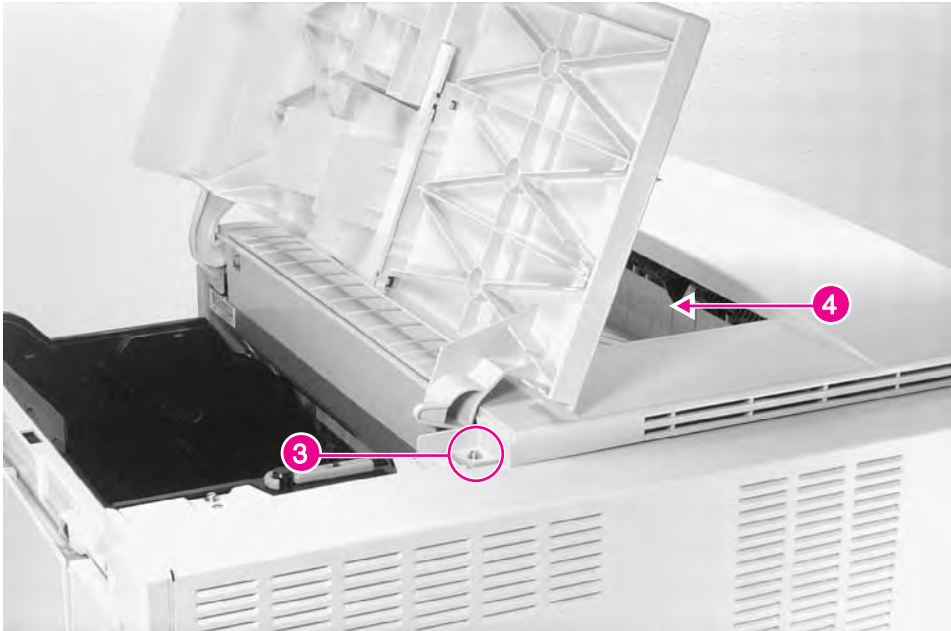

Figure 6-11 Top Cover (2 of 2)
- 3 Open the top cover door, and remove 1 screw (figure 6-11, callout 3).
Be careful not to damage the Standard Output Bin Full sensor flag (figure 6-11, callout 4) when removing the top cover.
Be careful not to damage the Standard Output Bin Full sensor flag (figure 6-11, callout 4) when replacing the top cover.
- 2 Slide the Standard Output Bin under the Standard Output Bin Full sensor flag, and make sure that the cam (figure 6-11, callout 4) at the rear of the top cover door is properly positioned while lowering the top cover into place.